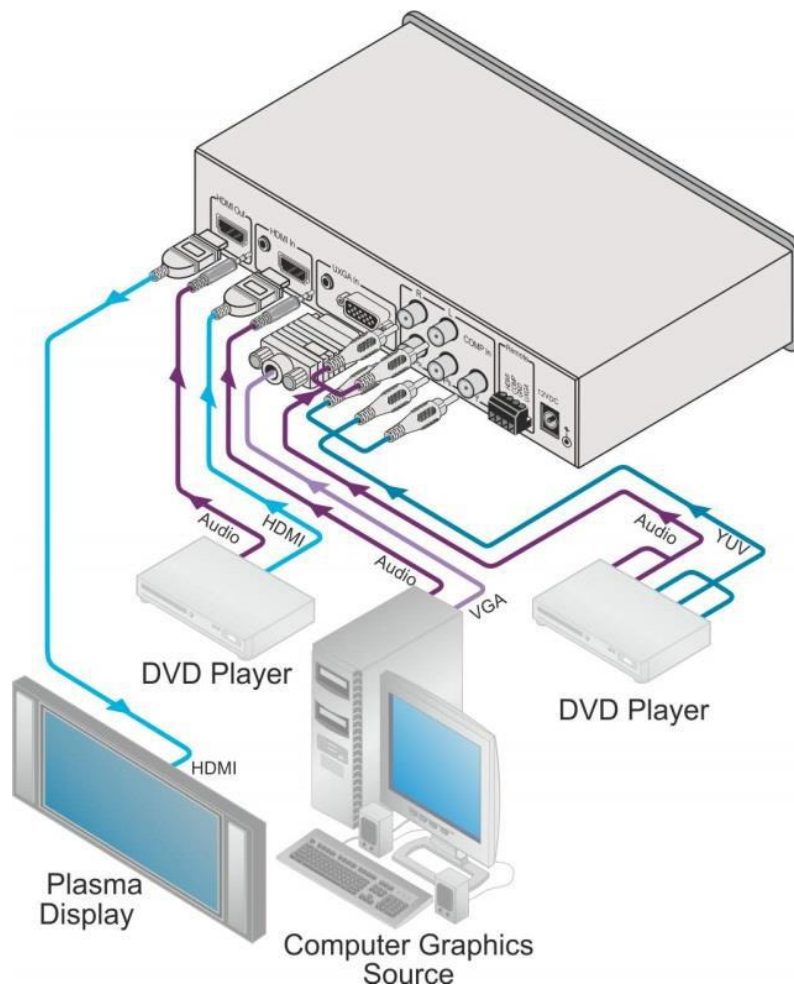

Figure 2: Connecting the VP-435 Component / UXGA HDMI Scaler
To connect your **VP-435**, as illustrated in the example in Figure 2, do the following:
5. Connect the 12V DC power adapter to the power socket and connect the adapter to the mains electricity (not shown in Figure 2).